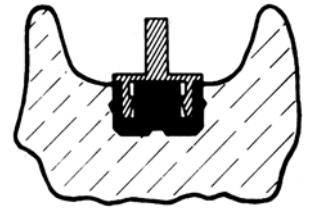

Fig. 12
1. In the operator: Snap a black fabrication male, onto the female of each abutment and make the final impression. Remove the fabrication males from the implant abutments. If the males are pulled in the impression, take them out of the impression. Snap the fabrication males onto overdenture processing jigs. Reposition this assembly in the imprint of the fabrication male in the impression (Fig. 12). Pour the processing model. The metal jigs will represent the implant abutment females.